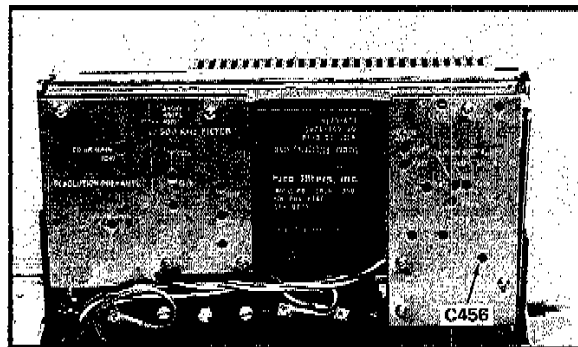

Fig. 4-15. Wide band filter adjust C456.
d. Adjust the 105 MHz IF amplifier, and the wide filter bandpass characteristics; with C82, the 3 MHz helical resonator, (Fig. 4-14) and C456, in the filter circuit (Fig. 4-15) for a response that is similar to the illustrated in Fig. 4-17.
3) Adjust C456 (Fig. 4-15) for maximum bandwidth and amplitude.